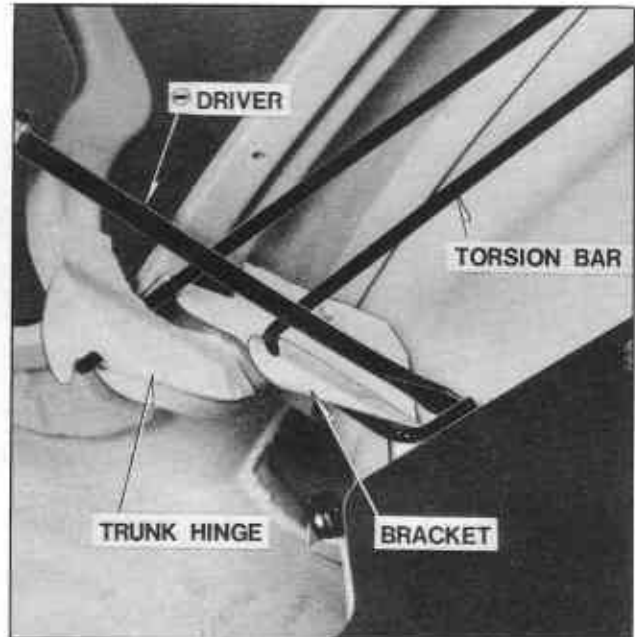

Fig. BF-11 Removing the torsion bar
1. Remove torsion bar fixing wire then using a screw driver as shown Figure BF-11 remove the torsion bar.